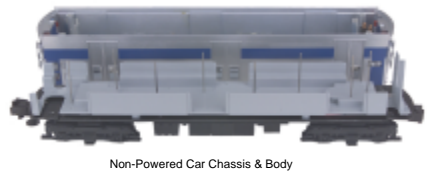

Figure 6
1. Remove the four Phillips screws from the chassis (same as power unit), then lift the body away from the chassis. Lift the shell off carefully and turn body shell over to reveal interior lights. (See figure 6)